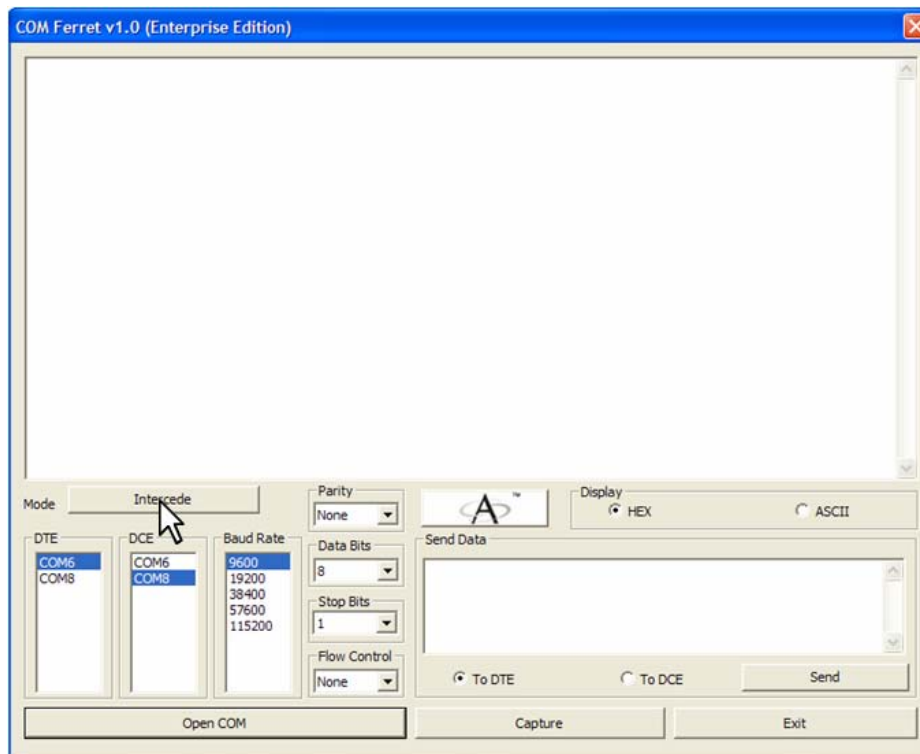

Figure 6 : The Mode button allows the user to change the current mode of operation
Ferret provides five (5) modes of operation to enable flexibility in analyzing an RS-232 communication link. By default, Ferret operates in "Intercede" mode when the application is initially launched. To change the mode, the user must press the "Mode" button as shown in Figure 6.